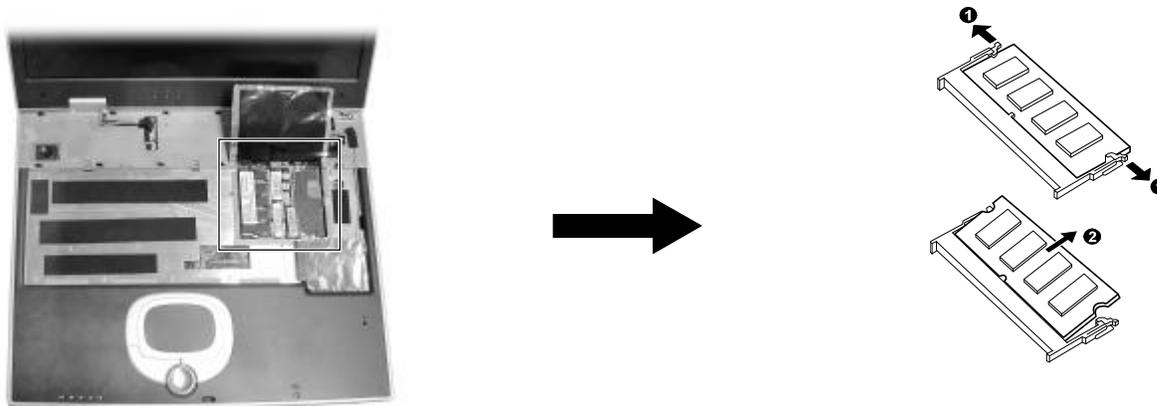

Figure 2-15 Remove the SO-DIMM
2. Pull the retaining clips outwards (Ⓔ) and remove the SO-DIMM (•). (Figure 2-15)